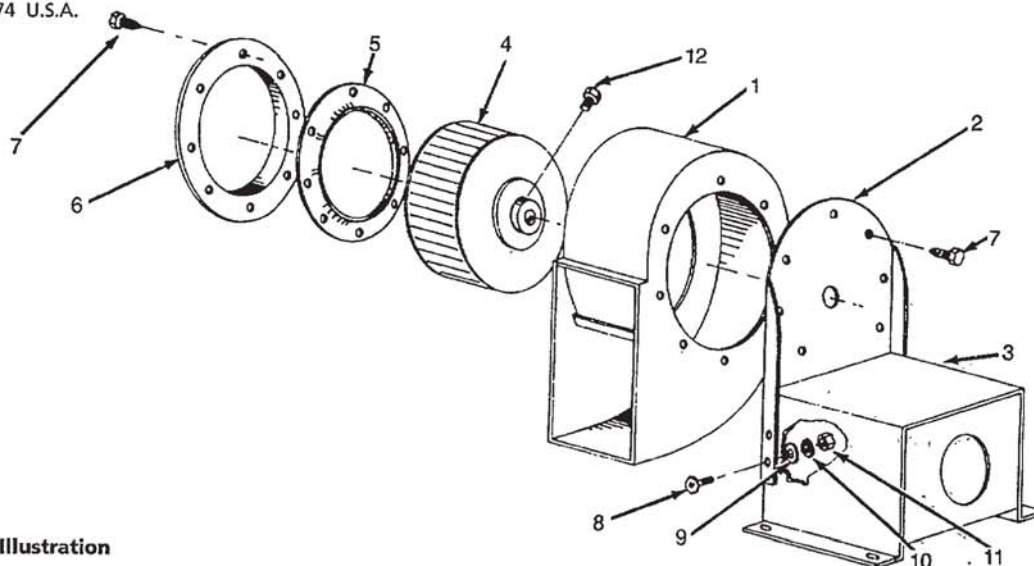

Figure 5 – Repair Parts Illustration
1. Attach base upright to the motor mounting base as shown in the exploded view. See Figure 5. Hand tighten (4) 1/4 -20 x 1/2" bolts, washers, and nuts through slotted holes in base upright. Place motor on motor base and align the center hole of the base upright with the motor shaft. Secure the four 1/4-20 bolts.